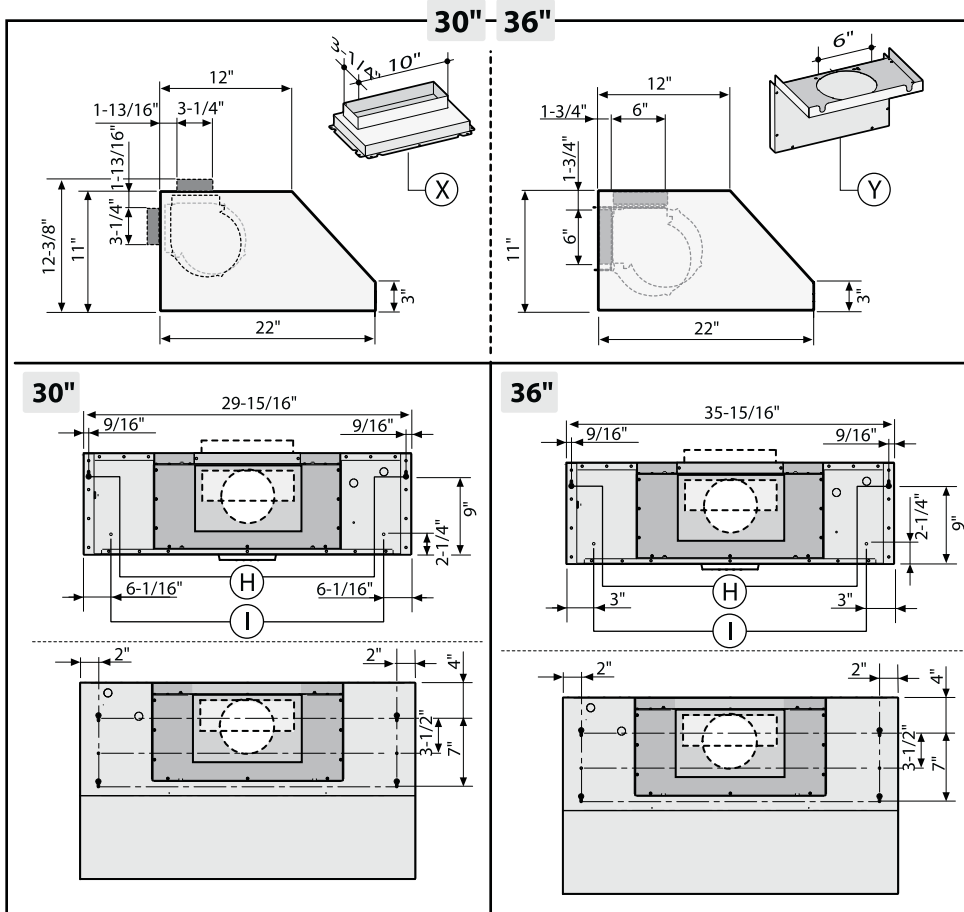

Fig.7
- Make 6 holes in the shelf respecting the measurements indicated (Fig.7).
- Make 4 holes respecting the measurement indicated in the figures (Fig.7).